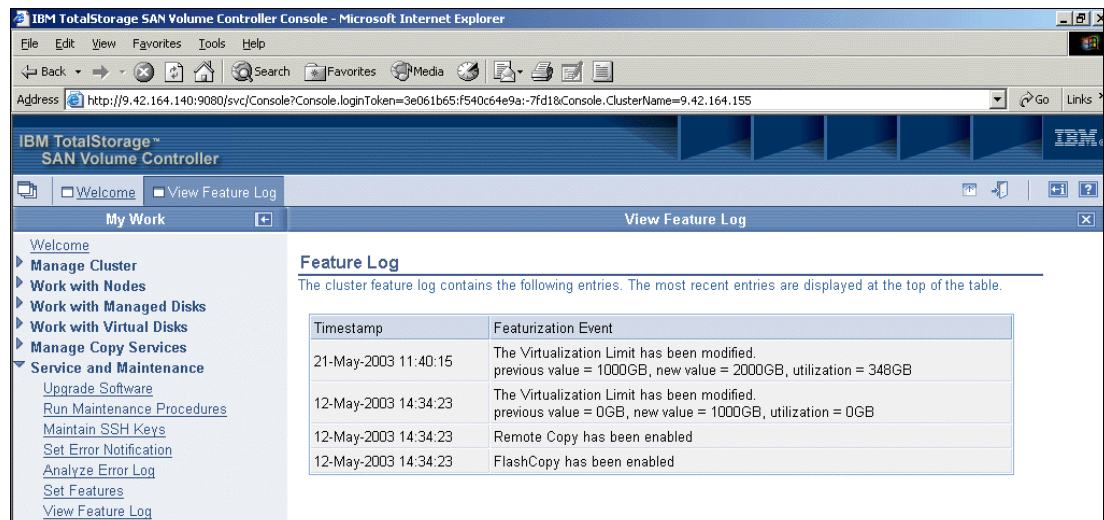

Figure 9-94 Feature Log
2. The Feature Log panel (Figure 9-94) opens. It displays the current feature settings and a log of when changes were made.